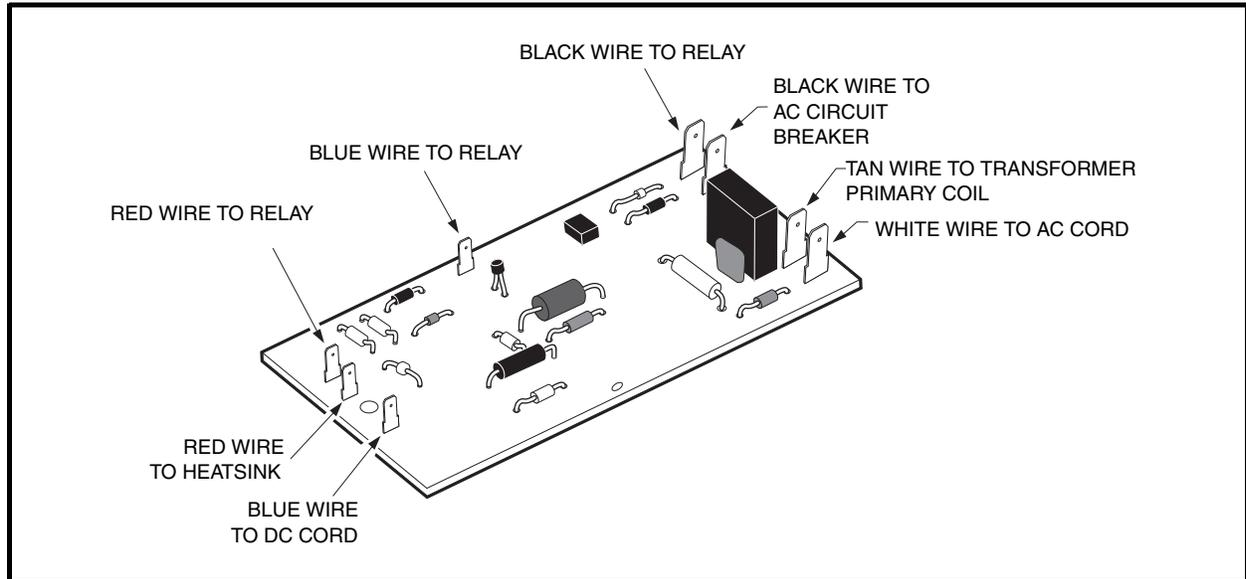

Figure 4-7 Control Board
2. Disconnect tan wire from transformer primary coil at terminal on control board (**Figure 4-7, Page 4-11**). **See following DANGER.**